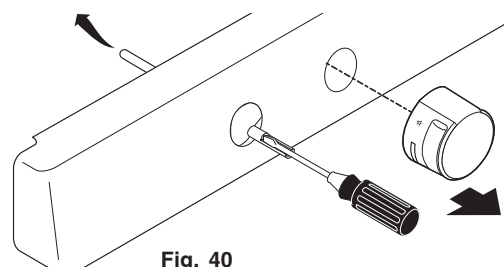

Fig. 40
If burner goes out, reset control to OFF. Remove the burner control knob. Use a thin-bladed screwdriver and adjust the inner burner flame size with the right-hand set screw (See Fig. 40). Adjust the outer burner flame size with the lower set screw (See Fig. 40). Turn counterclockwise to increase flame size. Turn clockwise to decrease flame size.
5. Use a thin-bladed screwdriver and adjust the inner burner flame size with the right-hand set screw (See Fig. 40). Adjust the outer burner flame size with the lower set screw (some models - See Fig. 40). Turn counterclockwise to increase flame size. Turn clockwise to decrease flame size.